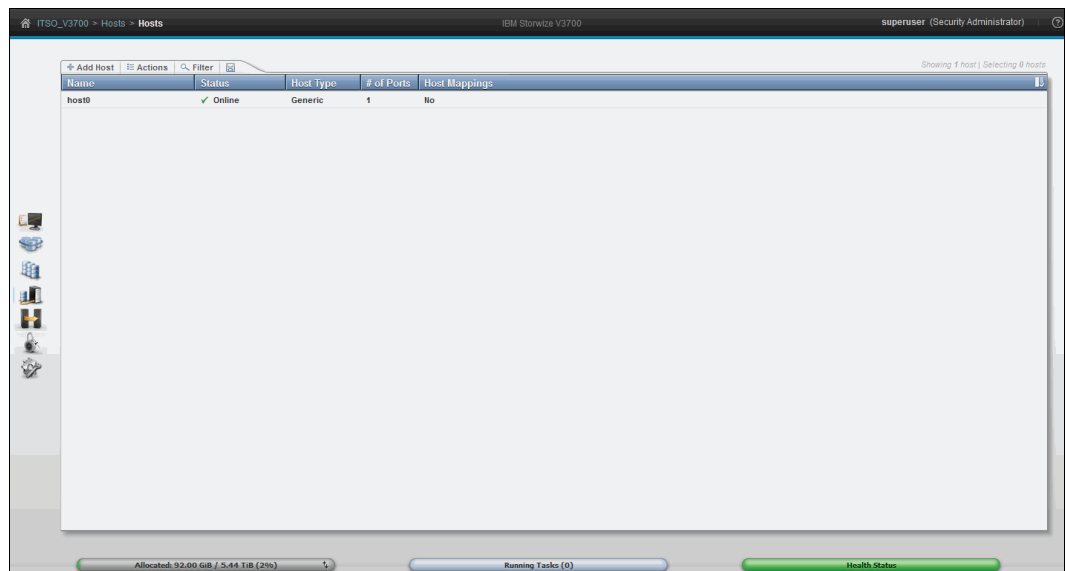

Figure 4-46 The Hosts view with the newly created host object listed
6. Click **Close** to return to the host view, which should now list your newly created host object, as shown in Figure 4-46.